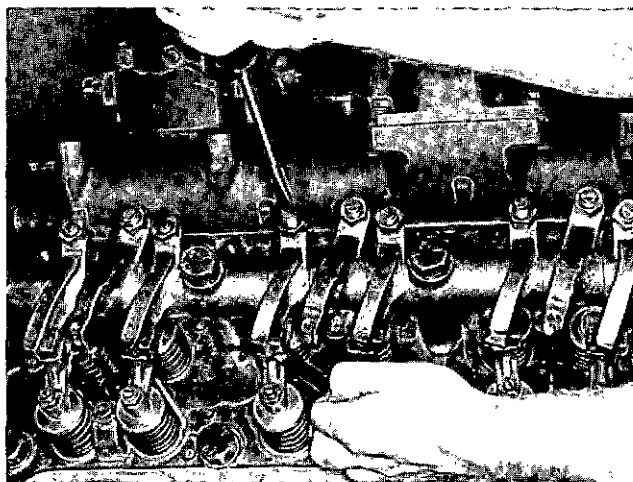

Fig. 2-58 (V51492) Adjusting valves
1. Loosen locknut and back off adjusting screw. Insert feeler gauge between rocker lever and top of crosshead. Valve clearances are: Intake 0.012 inch [0.30 mm], Exhaust 0.022 inch [0.56 mm]. Turn screw down until lever just touches gauge and lock adjusting screw in this position with locknut. Fig. 2-58. Torque locknut to values indicated in Table 2-4.